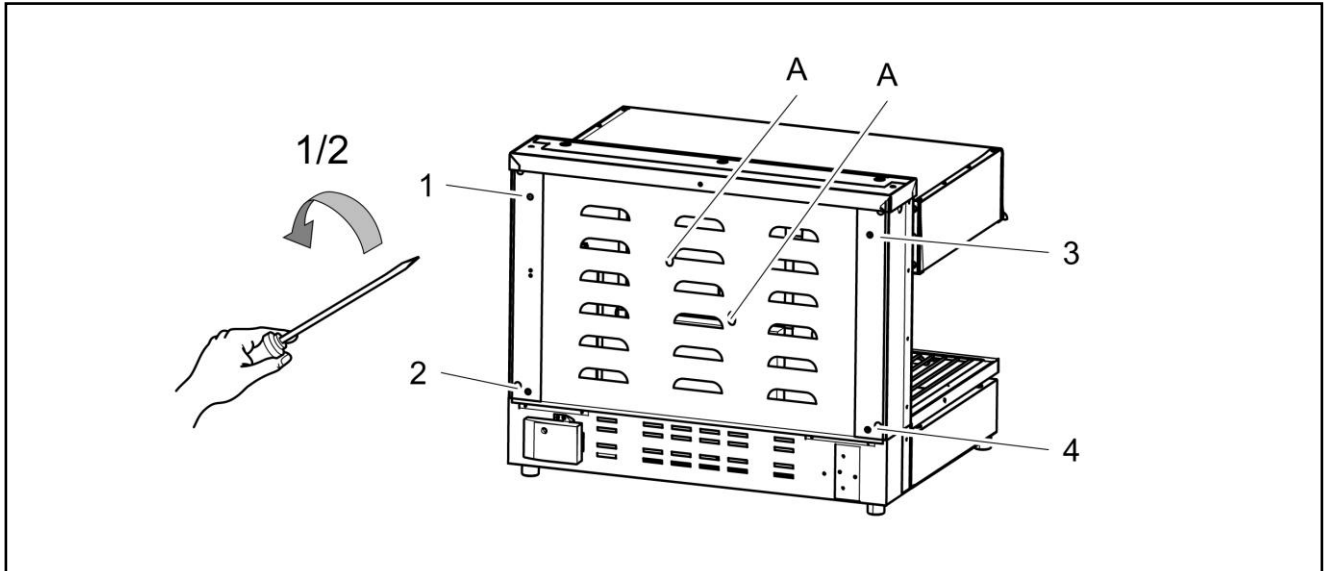
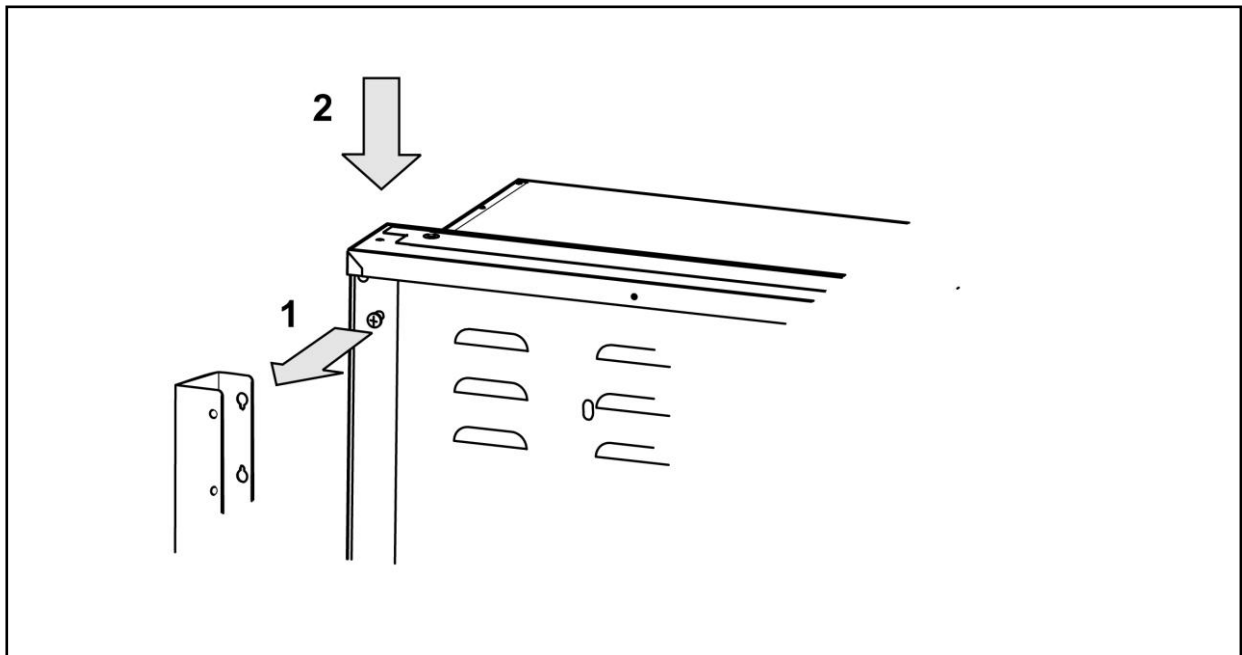

Fig 2
Fig 4
Appliances may be counter or wall mounted. For either installation, remove and discard the 2 transportation screws (A) from rear panel. (Fig 2).
Unscrew bolts 1-4 (Fig 2) half a turn.
Lift appliance into position, locating screws 1-4 (Fig 2) into keyways on brackets (Fig 4).